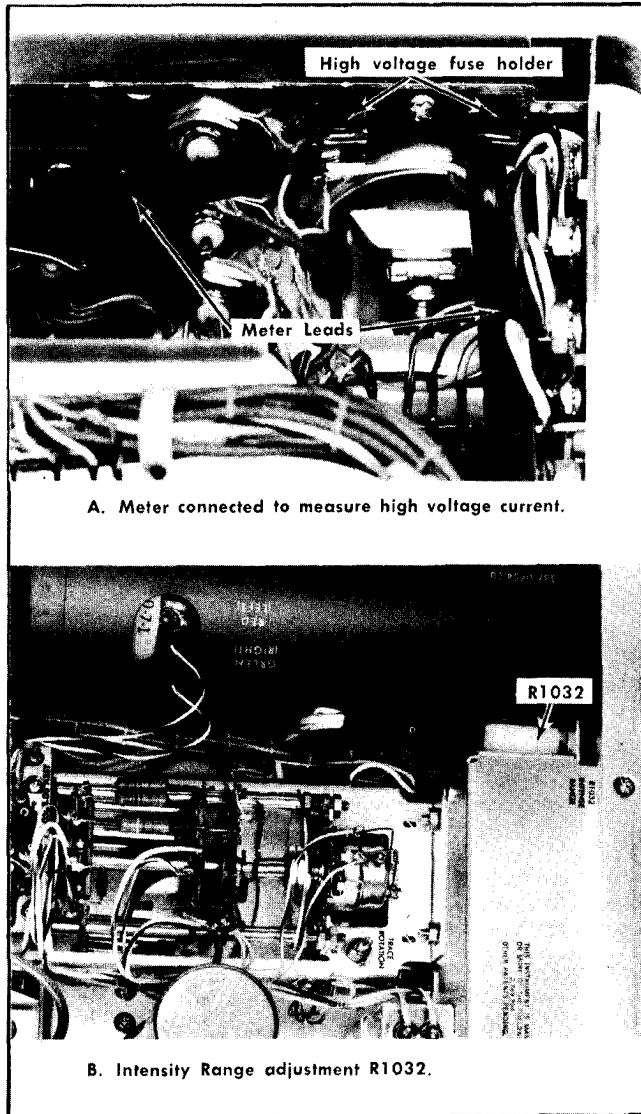

Fig. 6-7. Setting the high voltage current.
①
c. Connect an ammeter across the fuse holder (Fig. 6-7). Set the ammeter range to 1A.